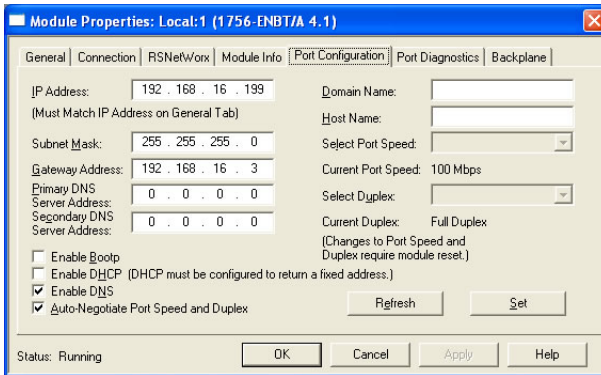

Figure 79: Confirming the Module's Properties
- 11) Confirm that the IP Address, Subnet Mask and Gateway Address fields are configured correctly. The IP Address must match the IP Address entered when the new module was first created. Refer to Figure 79.